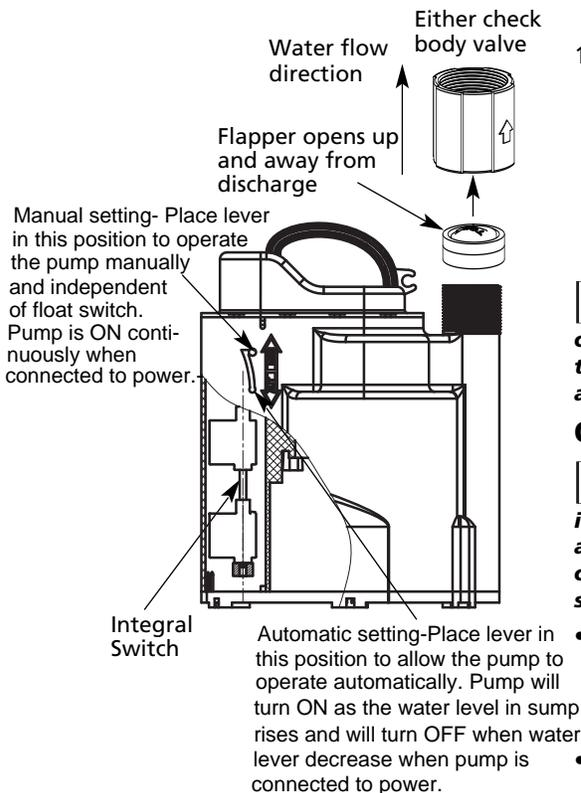

Figure 1
7. Install check valve in discharge line to avoid any backwards flow of water through the pump when the pump is shut off. See Figure 1.